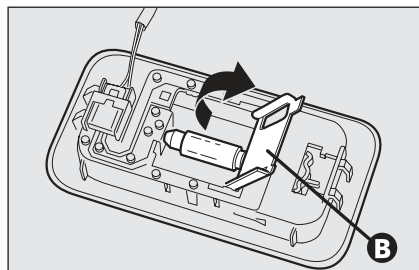

fig. 51
- ☐ open the protection cover **B-fig. 51** and replace the bulb releasing it from the side contacts making sure that the new bulb is correctly clamped between the contacts;